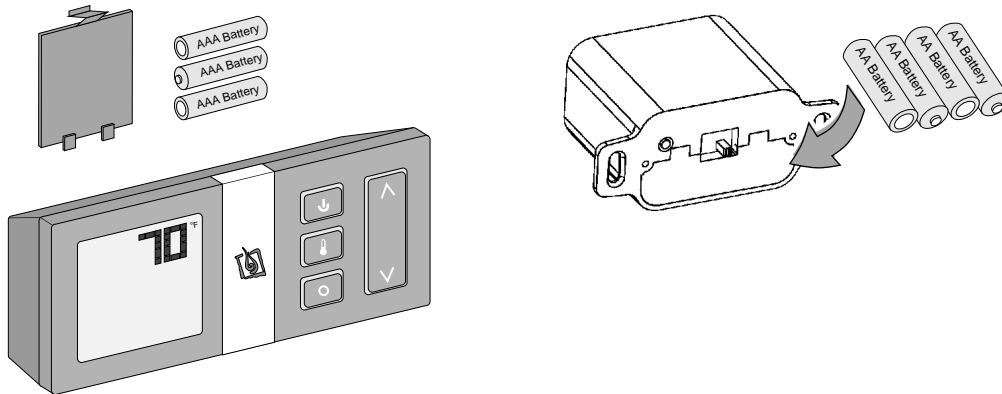

Figure 12
Install four AA batteries into the battery holder (see Figure 12 below). These batteries act as a power backup in case the household (AC) current goes out.